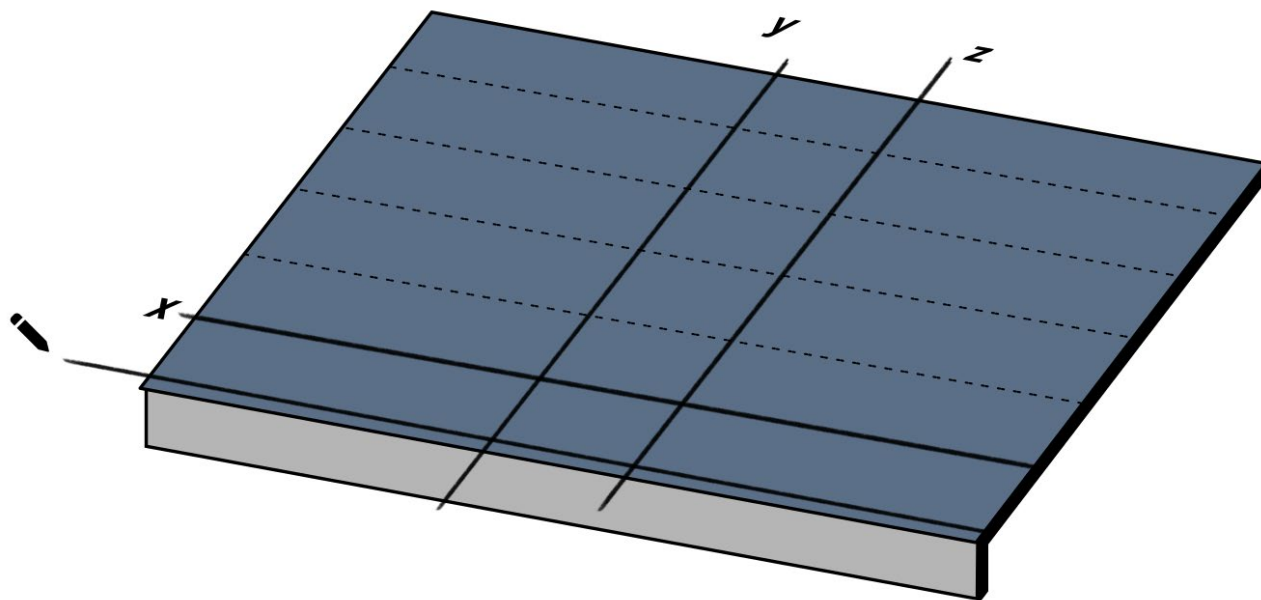

Fig. 5 - Bitustick application
- Apply a bead of Bitustick bituminous adhesive along the eaves line, above the membrane/underlayer - Fig. 5;